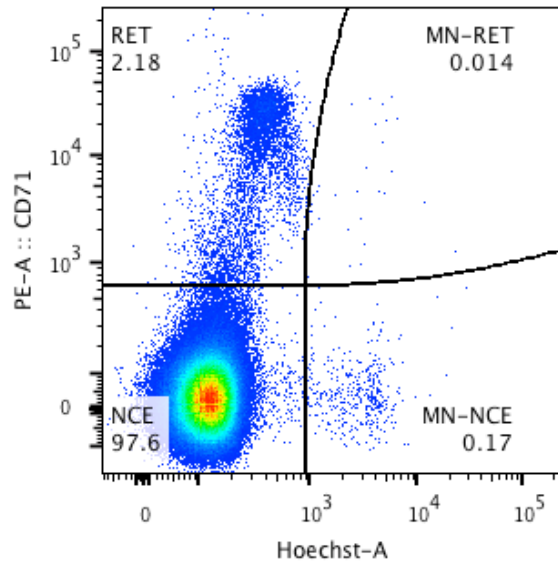

Figure 5: Hoechst vs PE-CD71
- X axis = Hoechst-A; Y Axis = PE-A CD71 (figure 5)